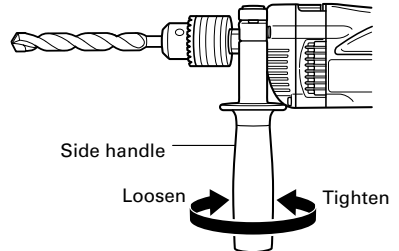

Fig. 6
**7. Fixing the side handle (Fig. 6)**